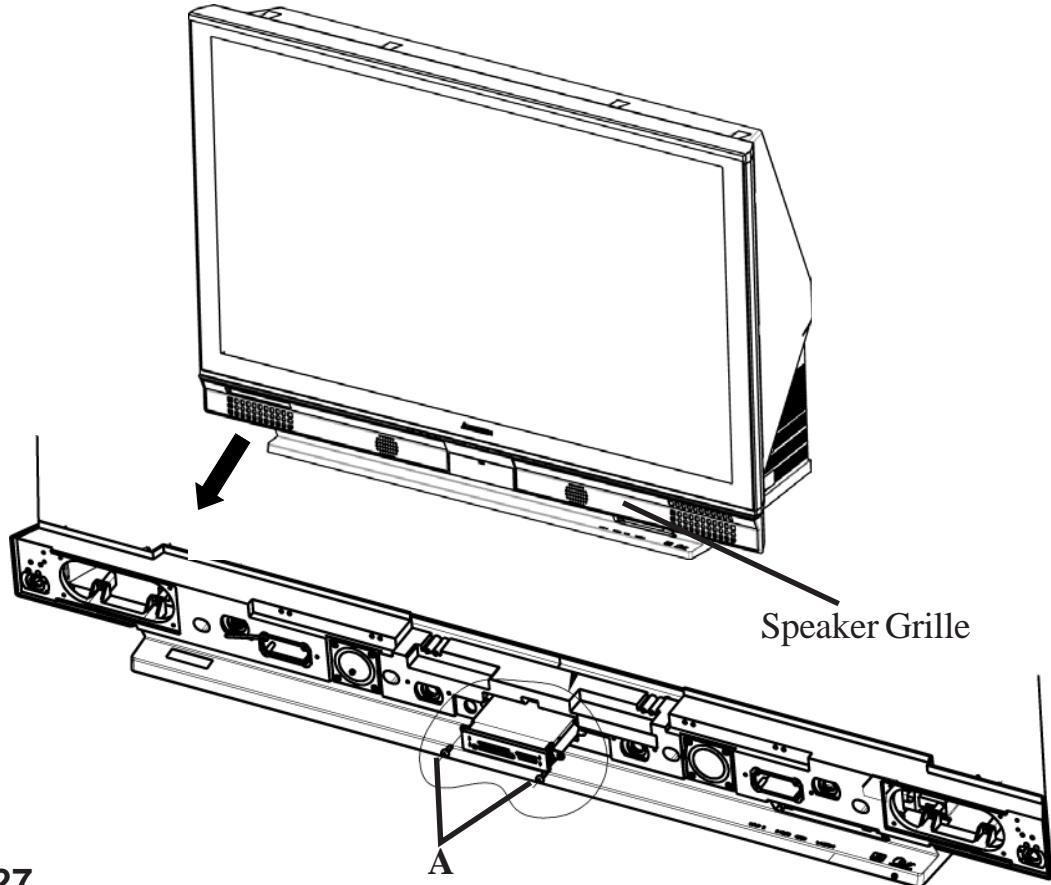

*Figure 1: Unit-Adjuster*
Mechanical Optical Engine Adjustments are made using the UNIT-ADJUSTER shown in *Figure 1*. The UNIT-ADJUSTER is mounted under the Light Engine on the Engine Plate. It is accessed from the front of the set through the opening for the Card Reader. Refer to the model specific Disassembly Instructions and remove the:
- [B-1] is located on the front of the UNIT-ADJUSTER. (*Figure 1*)
When possible, the indication will be placed close to the part number that is screened onto the PCB (not the part label). *Figure 1* is an example of a PCB showing the display and its location.